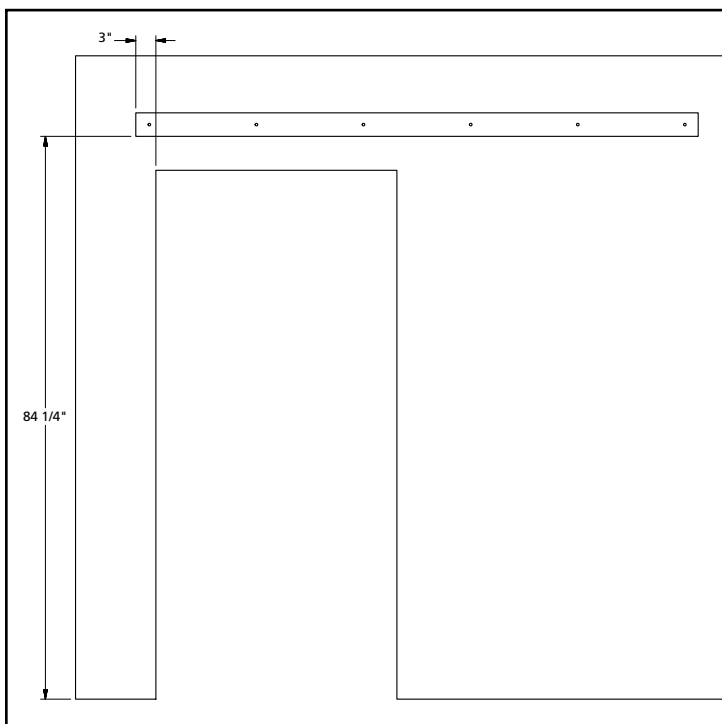

Figure 10. Backer Board Placement
2. Horizontally, the board should be placed so it has a minimum of 3" of overlap with the passage opening the barn door will operate within, as shown in figure 10.